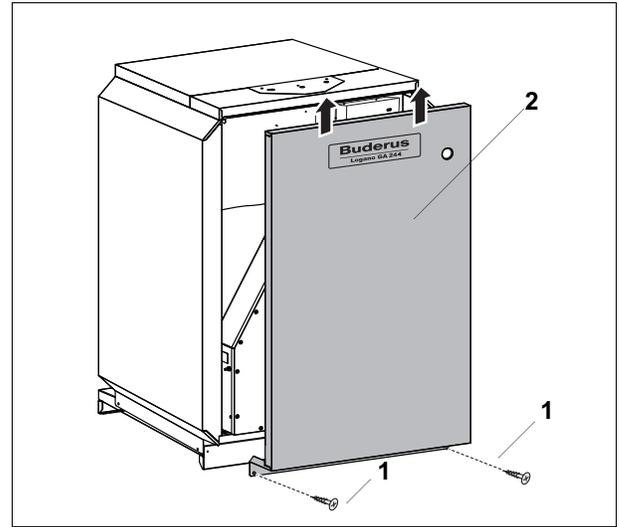

Fig. 1 Removal of front access panel
4. Remove screws from left and right of the front access panel (Fig. 1, **Item. 1**). Tip top of the access panel forward (Fig. 1, **Item. 2**) and lift up from the bottom and remove front panel.
8. Replace front access panel (Fig. 1).
3. Remove front access panel (Fig. 1).
5. Replace front access panel (Fig. 1).